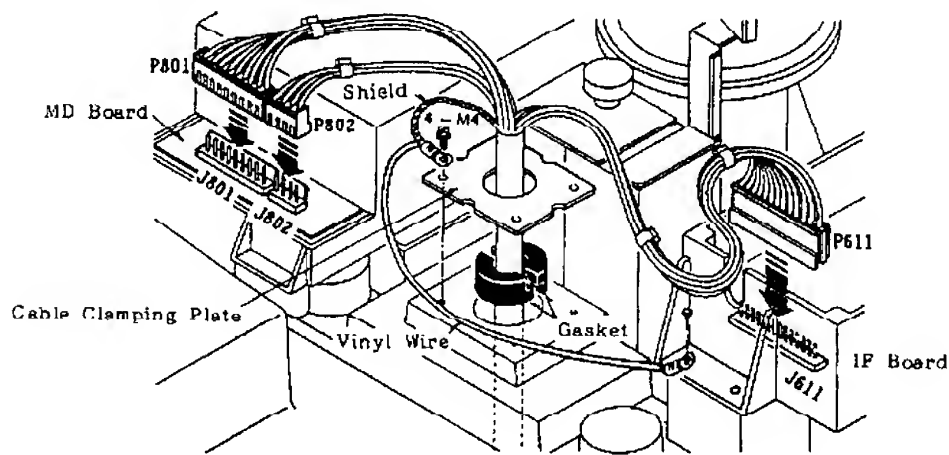

Fig.7 Cable Connection and Grounding
6. Remove the cable clamping plate by loosening four M4 screws and two gaskets at the radome base. See Fig.7.
8. Secure the cable with the cable clamping plate and gaskets. Ground the shield and vinyl cables by using one of the fixing screws for the cable clamping plate and for the IF amp. chassis. See Fig.7.
9. Mate the two plugs (9 and 4 ways) to the MD board. Remove the lid of the IF board and mate the plug (14 ways), referring to Fig.7. Take care not to pinch the wire when putting the lid back.